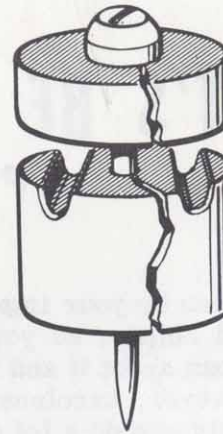

Figure 2
4. Cracked or broken insulators (Figure 2) _____